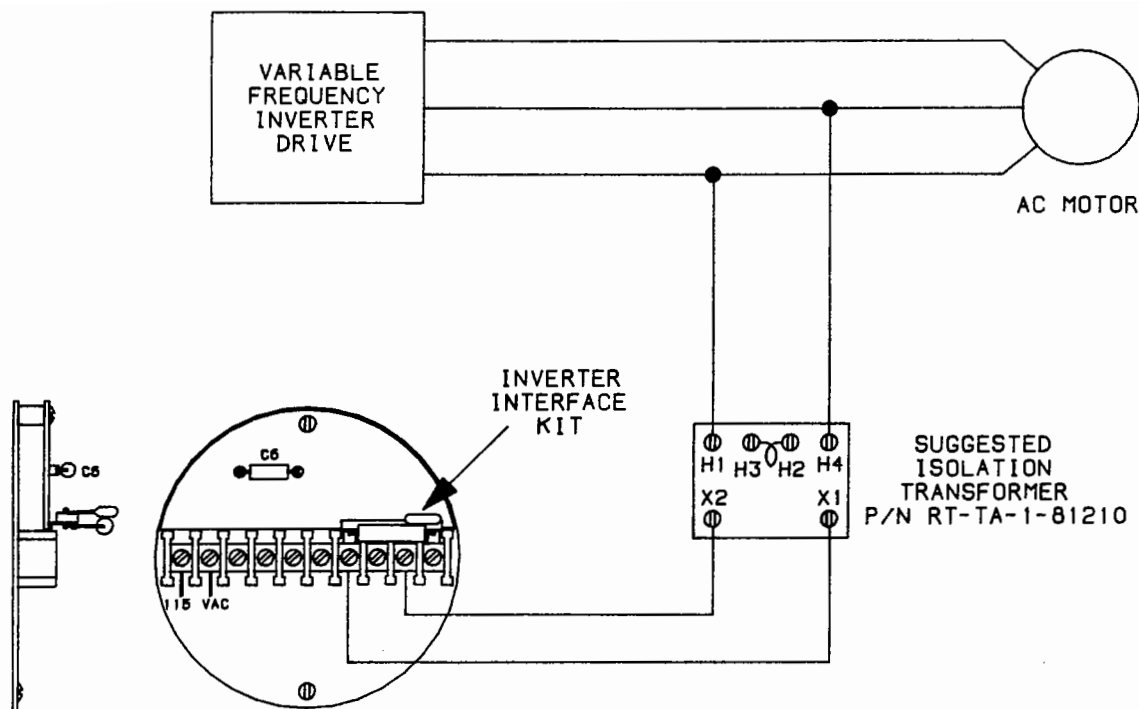

FIGURE 2
- 3.) Inverter Output (See Fig. 2)